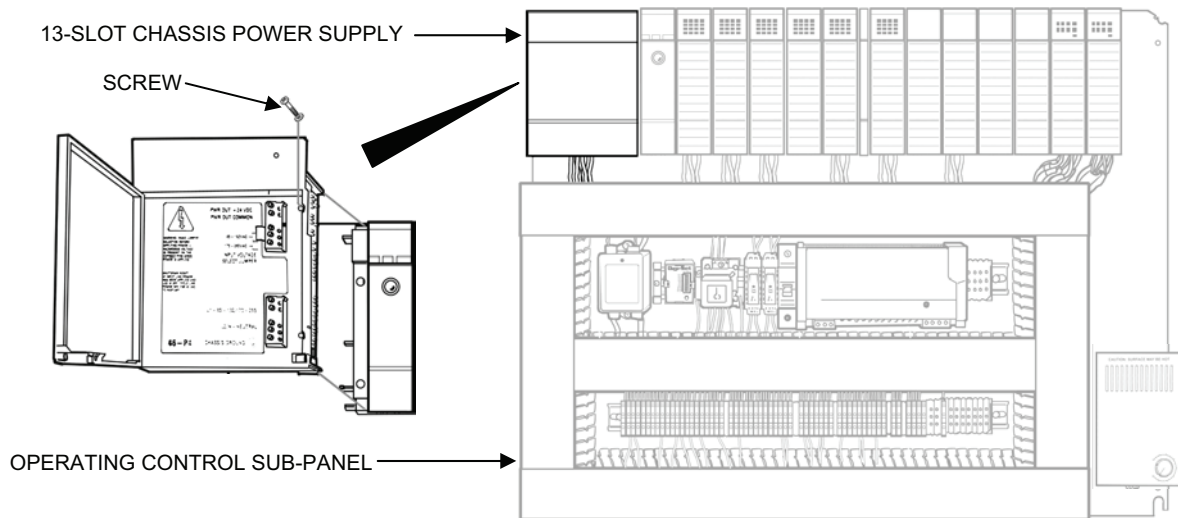

Figure 2. 13-Slot Chassis Power Supply Removal.
3. Remove the power supply as follows (see Figure 2):